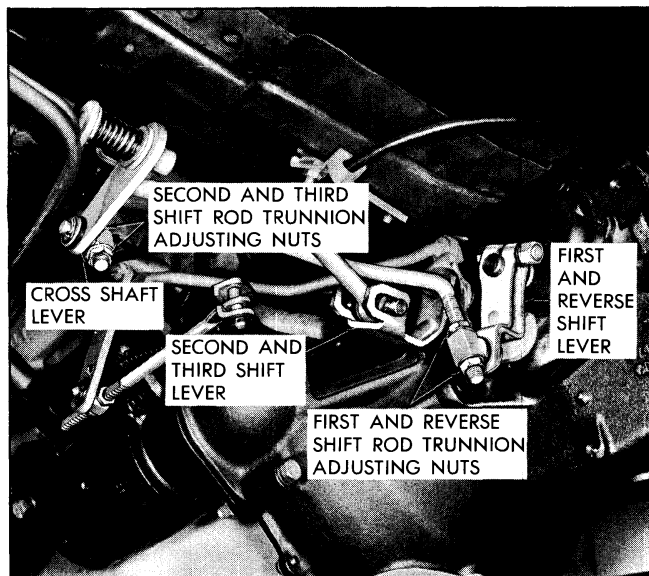

Fig. 7-39 Gearshift and Interlock Linkage Connected at Transmission
7. Connect shift levers and rods (Fig. 7-39).